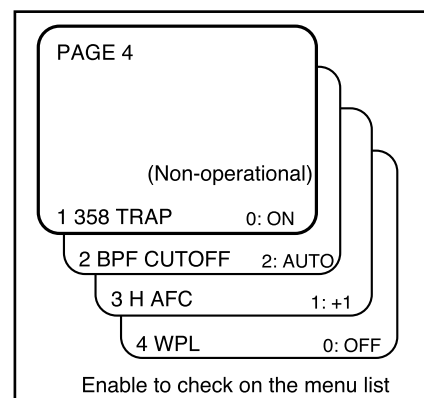

Fig. 4
- Check if the details of the Adjustment Menu Screen are the same as those in Fig. 4. If they were different, readjust them accordingly using the volume keys on the jig remote controller.